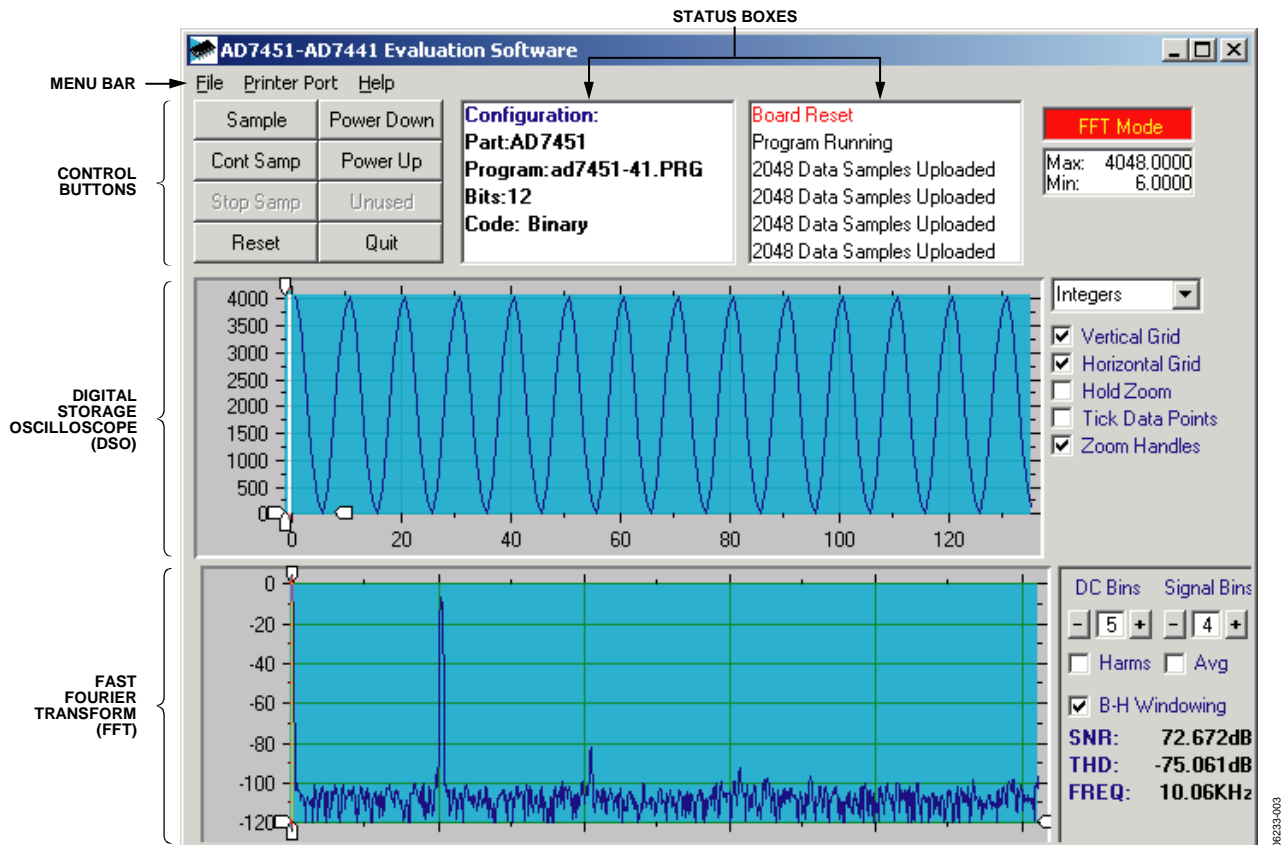

Figure 4. AD7441/AD7451 Evaluation Software, Main Window
5. When all the settings are set, click **Close** to return to the main window (see Figure 4).
The main window in Figure 4 appears when the software is loaded. The main function of this window is to allow you to read a predetermined number of samples from the evaluation board and display them in both the time and frequency domain. This section discusses the content of the main window as they are illustrated in Figure 4.